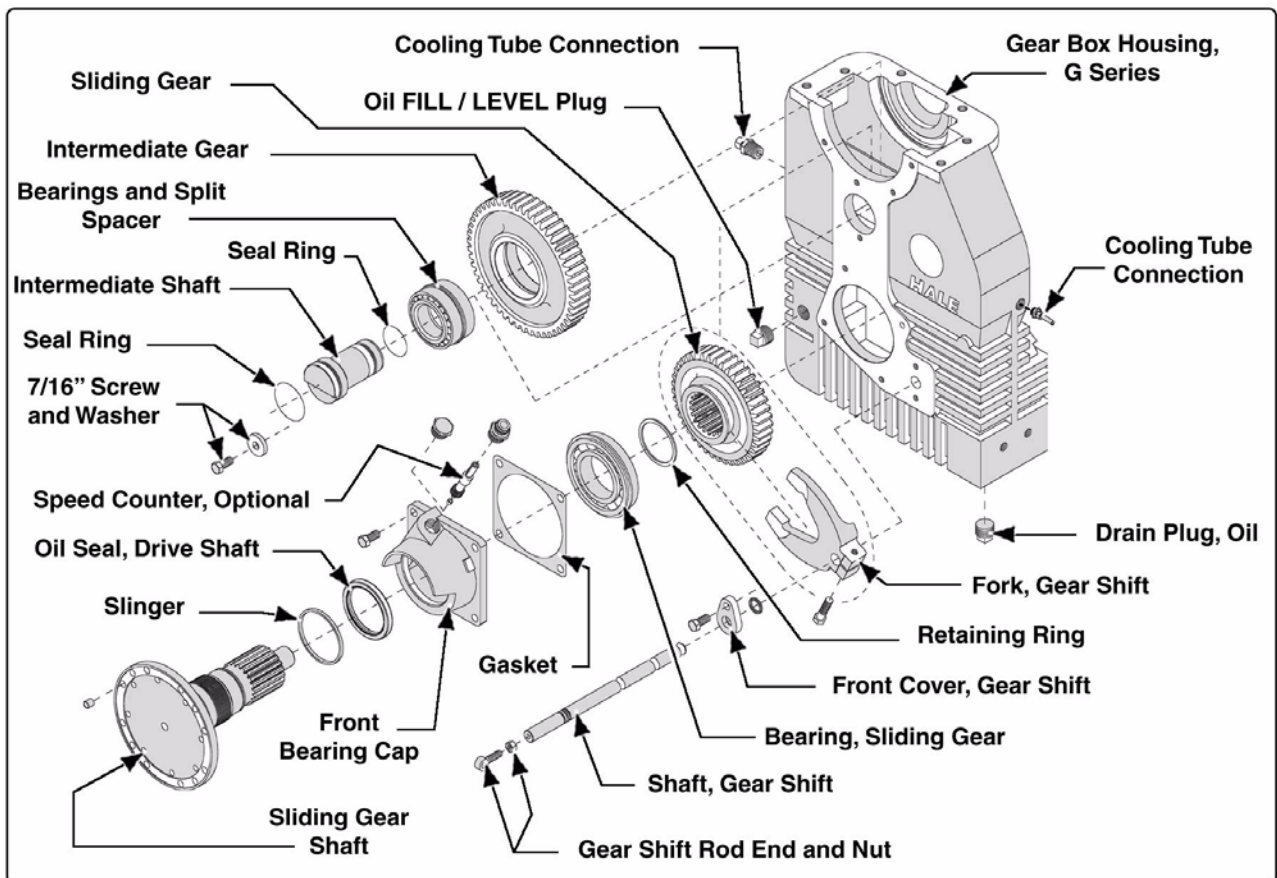
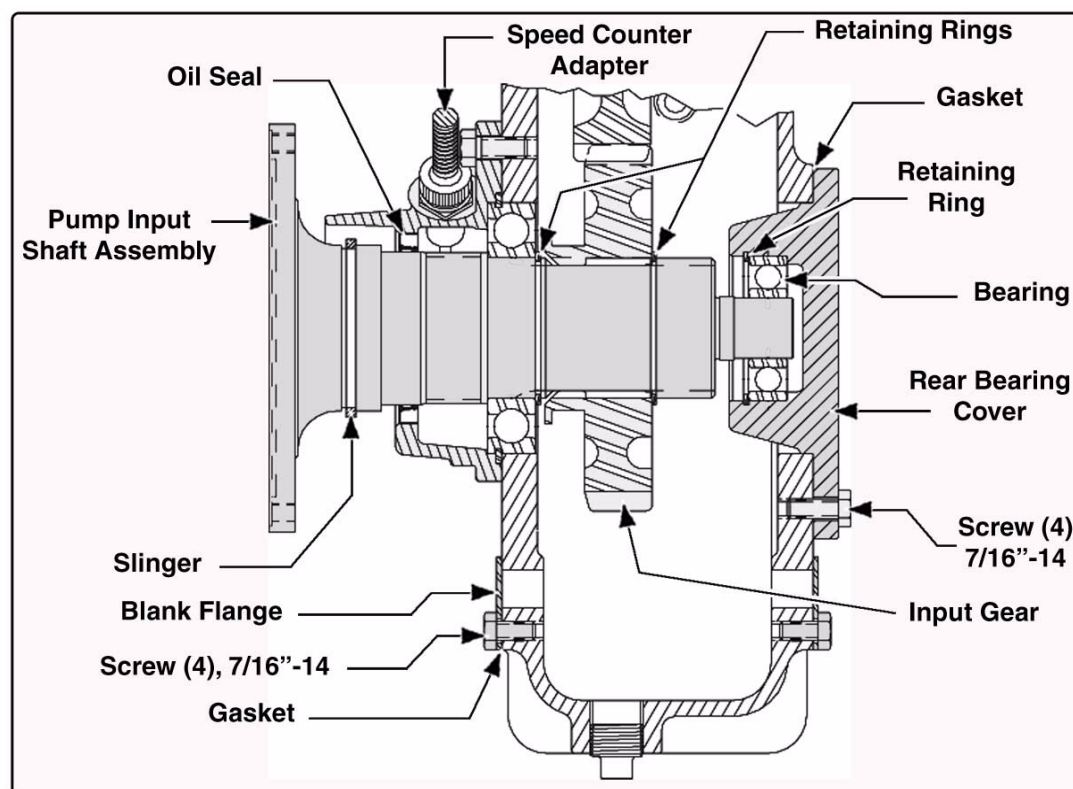

Figure 9-1: Intermediate Shaft and Sliding Gear, Typical G Series Gearbox
Figure 9-4: PTO Drive Option
Remove and disassemble the intermediate shaft assembly. (See Figure 9-1: “Intermediate Shaft and Sliding Gear, Typical G Series Gearbox.”)
2. Remove the 7/16"-14 UNC x 1" screw and washer holding the intermediate shaft in place. (See Figure 9-1: "Intermediate Shaft and Sliding Gear, Typical G Series Gearbox" on page 149.)
(See Figure 9-1: "Intermediate Shaft and Sliding Gear, Typical G Series Gearbox" on page 149.)
- ☐ Sliding gear bearing retaining ring - see Figure 9-1: "Intermediate Shaft and Sliding Gear, Typical G Series Gearbox" on page 149.
(See Figure 9-1: "Intermediate Shaft and Sliding Gear, Typical G Series Gearbox" on page 149.) Also see Figure 9-4: "PTO Drive Option" on page 154.
3. Place the sliding gear into the shift fork. Make sure the shift fork groove on the sliding gear is oriented towards the front of the gearbox. (See Figure 9-1: "Intermediate Shaft and Sliding Gear, Typical G Series Gearbox" on page 149.)
5. Using a brass drift or bearing installation tool, install the sliding gear bearing. (See Figure 9-1: "Intermediate Shaft and Sliding Gear, Typical G Series Gearbox" on page 149.)
(See Figure 9-4: "PTO Drive Option" on page 154.)